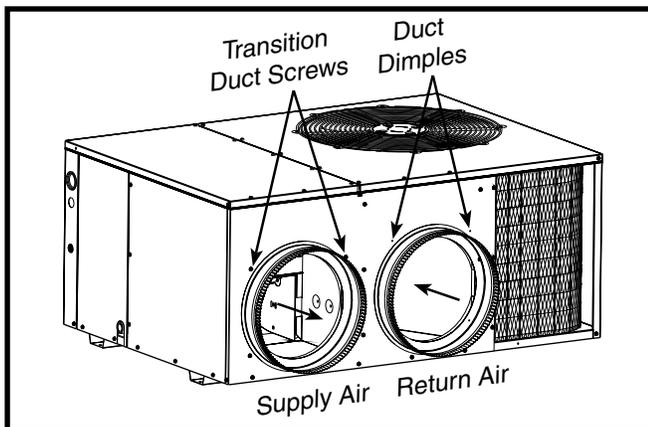

Figure 3. Return & Supply Air Collars
- The supply duct system, including the number and type of registers, will have much more effect on the performance of the system than any other factor. The duct must be sufficiently large to conduct an adequate amount of air to each register. See Figure 3 (page 5).
If the supply and return collars are supplied with the unit, they will be located in the supply duct. They can be easily positioned over the unit openings (Figure 3) and secured with sheet metal screws.